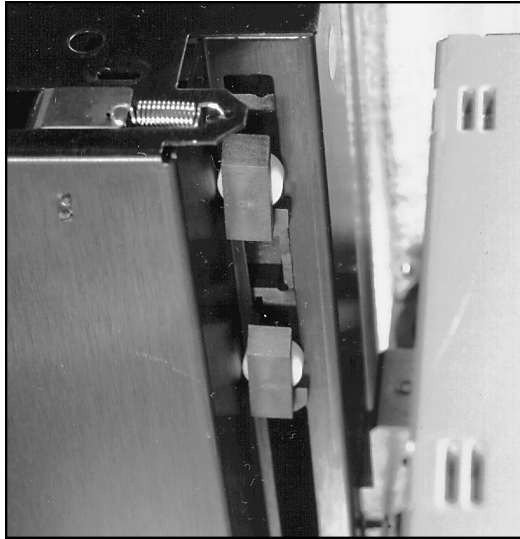

Figure 5-26. Picker Capture Brackets - Operating Position
11. Release the picker from the translate frame by removing the capture brackets on the rear, underside of the picker (see Figures 5-26 and 5-27).